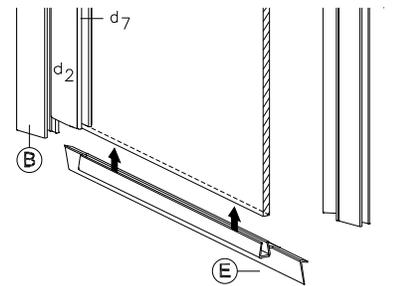
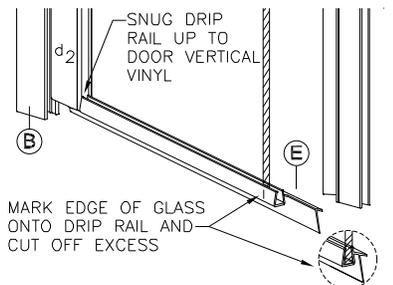

figure 4
figure 5
10. Insert Strike Post (C) into appropriate Wall Jamb. Measure from bottom of Strike Post (where it sits on Sill) to the bottom of the Door Pull (d9). Trim bottom Seal Vinyl (F) to a 3/4" more than measurement obtained. Insert trimmed Seal Vinyl into Strike Post as indicated in exploded view. Next insert Magnet Strip (G) into Strike Post. Finally insert remaining Vinyl Seal (F) and trim top excess as required. Snip Seal Vinyl as shown on sheet - 1, Detail '1 - A'.
11. Adjust Door Assembly and Strike Post along curb as required. Note: Bottom of Door Assembly must always remain parallel to Sill in order for door to operate properly. When satisfied with door operation, secure Hinge Post and Strike Post to the Wall Jambs using 638PHPT Adjustment Screws (J), see exploded view - sheet 1.
12. If Jamb Caps (K) were purchased, install the Jamb Caps (K) at both the hinge side and the strike side of the door as shown in exploded view - sheet 1. Trim the End Caps to required lengths before installing. Next, Install the Rail End Cap (L) on to end of Door Rail (d3) as shown in exploded view - sheet 1.
13. With drip wing positioned toward inside of shower enclosure, Insert Drip Rail (E) onto the bottom edge of the Door Assembly (D) as shown in exploded view - sheet 1 and figure 4. Now snug the Drip Rail up to the vertical Vinyl; mark the edge of the door glass on the rail and cut off the excess as shown in figure 5.